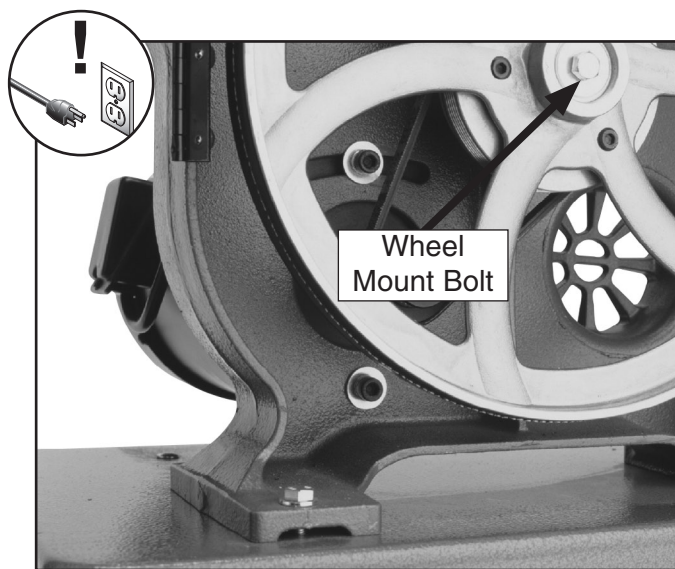

Figure 43. Wheel mount bolt.
4. Loosen the motor mount bolts shown in **Figure 43**.
7. Unthread the wheel mount bolt shown in **Figure 43**, and slide the lower wheel off of the bearing shaft.